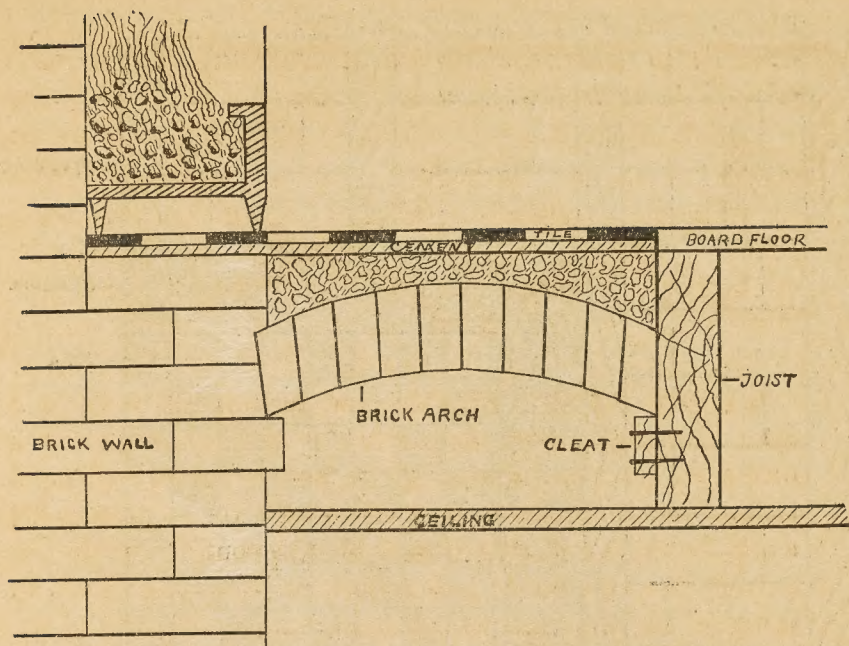

FIG. 4.
**FOR HEARTHES.** The foundation for hearths should be placed upon a brick arch, if possible, to insure perfect fire protection, and then covered with concrete in the same manner as directed for tile floors. If placed upon a sub-foundation of wood, the concreting should be at least six inches thick. (See Figures 4 and 5.)